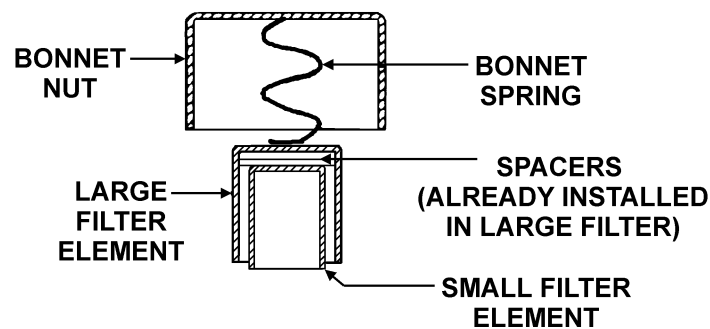

Figure 2
6. Remove the metal shield cover. Unscrew the bonnet nut and place the small filter element inside the large filter element in the Deposit Collector as shown in Figure 2. The open ends of both filter elements face the seat. It is important that the filter elements are seated properly in the Deposit Collector.